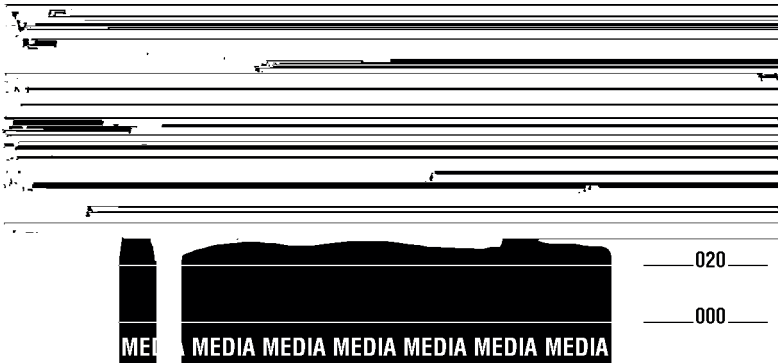

FIGURE 26
5. A profile of the media sensor settings will print (similar to the example in Figure 26). Upon completion, the printer will save the new settings in memory and the printer is ready for normal operation.